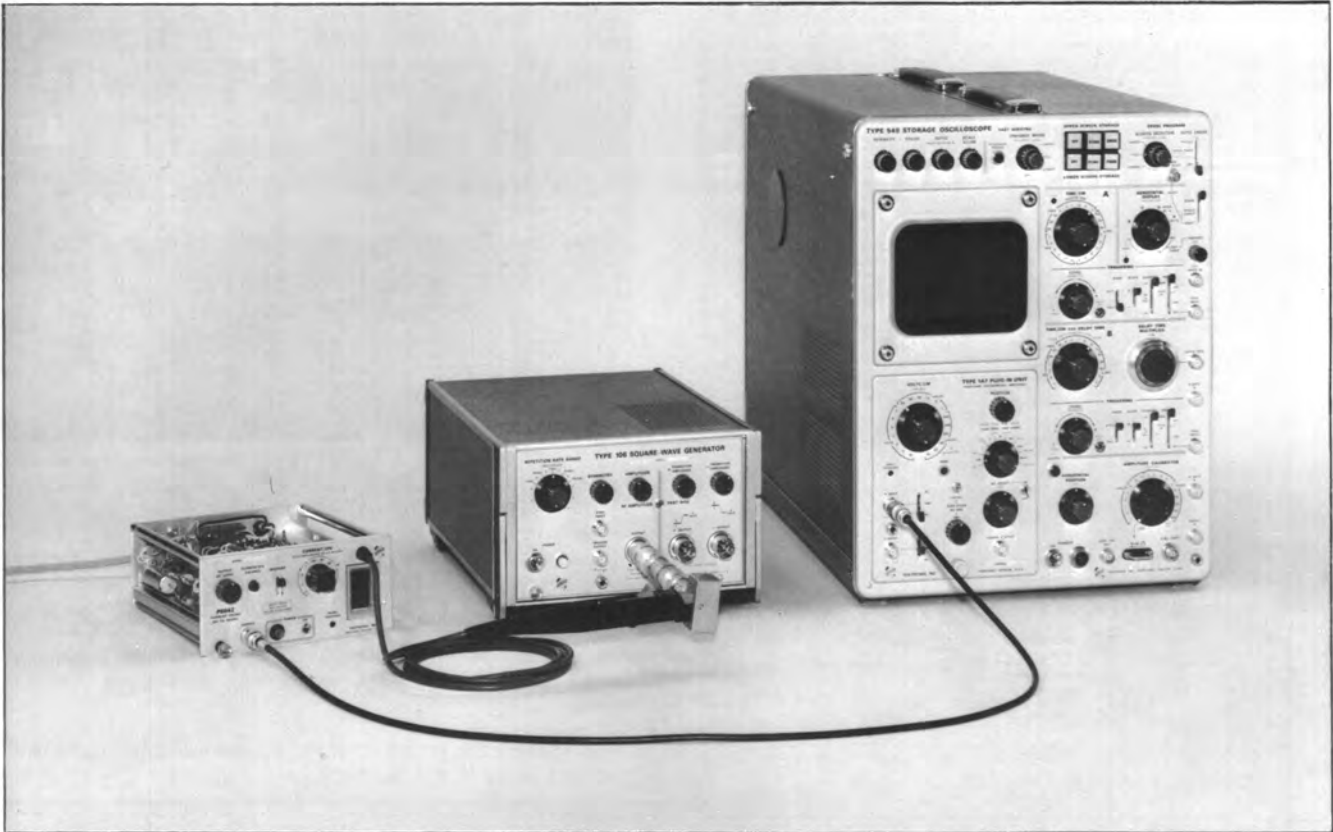

Fig. 6-13. Test setup for step 12.
a. Connect the two GR 10× 50 Ω attenuators and the current loop to the square-wave generator Hi Amplitude output. Connect the probe to the current loop. See Fig. 6-13.